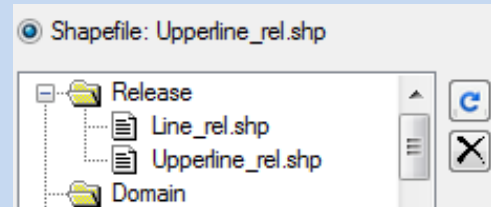

Figure 4.27: File Tree.
- Or simply click the name of the selected release file (.shp) in the file tree in the **ROCKFALL** panel (see Figure 4.27). The release line immediately appears in the project.